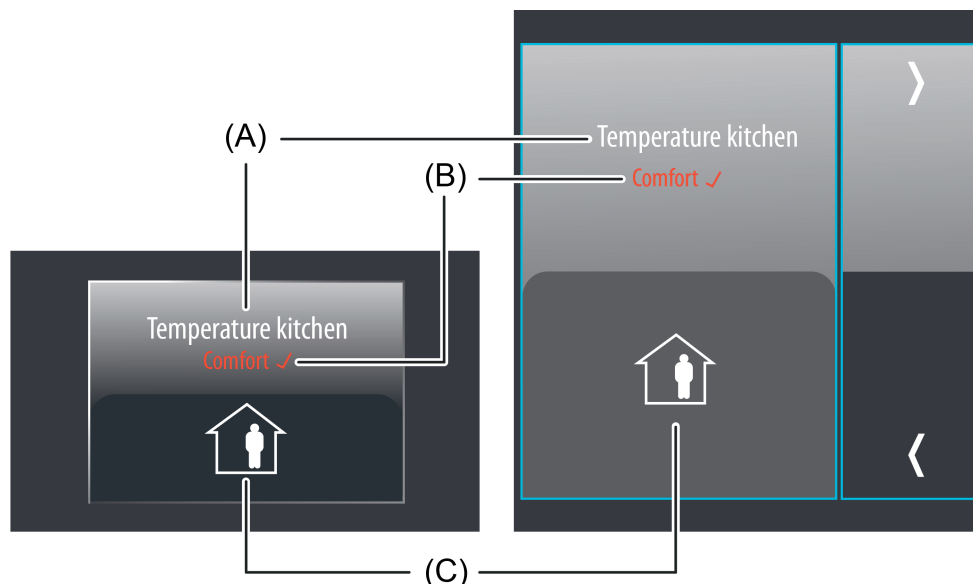

Figure 37: Example of an operating and display element of the function "Operating mode switchover 4 x 1-bit"
The display area contains different display elements (figure 37) that are influenced by parameters. A name can be assigned to each KNX function in the configuration software (A). This text name is centred in the display element for display whereby controllable KNX functions are identified for the user (e.g. "room temperature kitchen"). In addition, a status text (B) can be